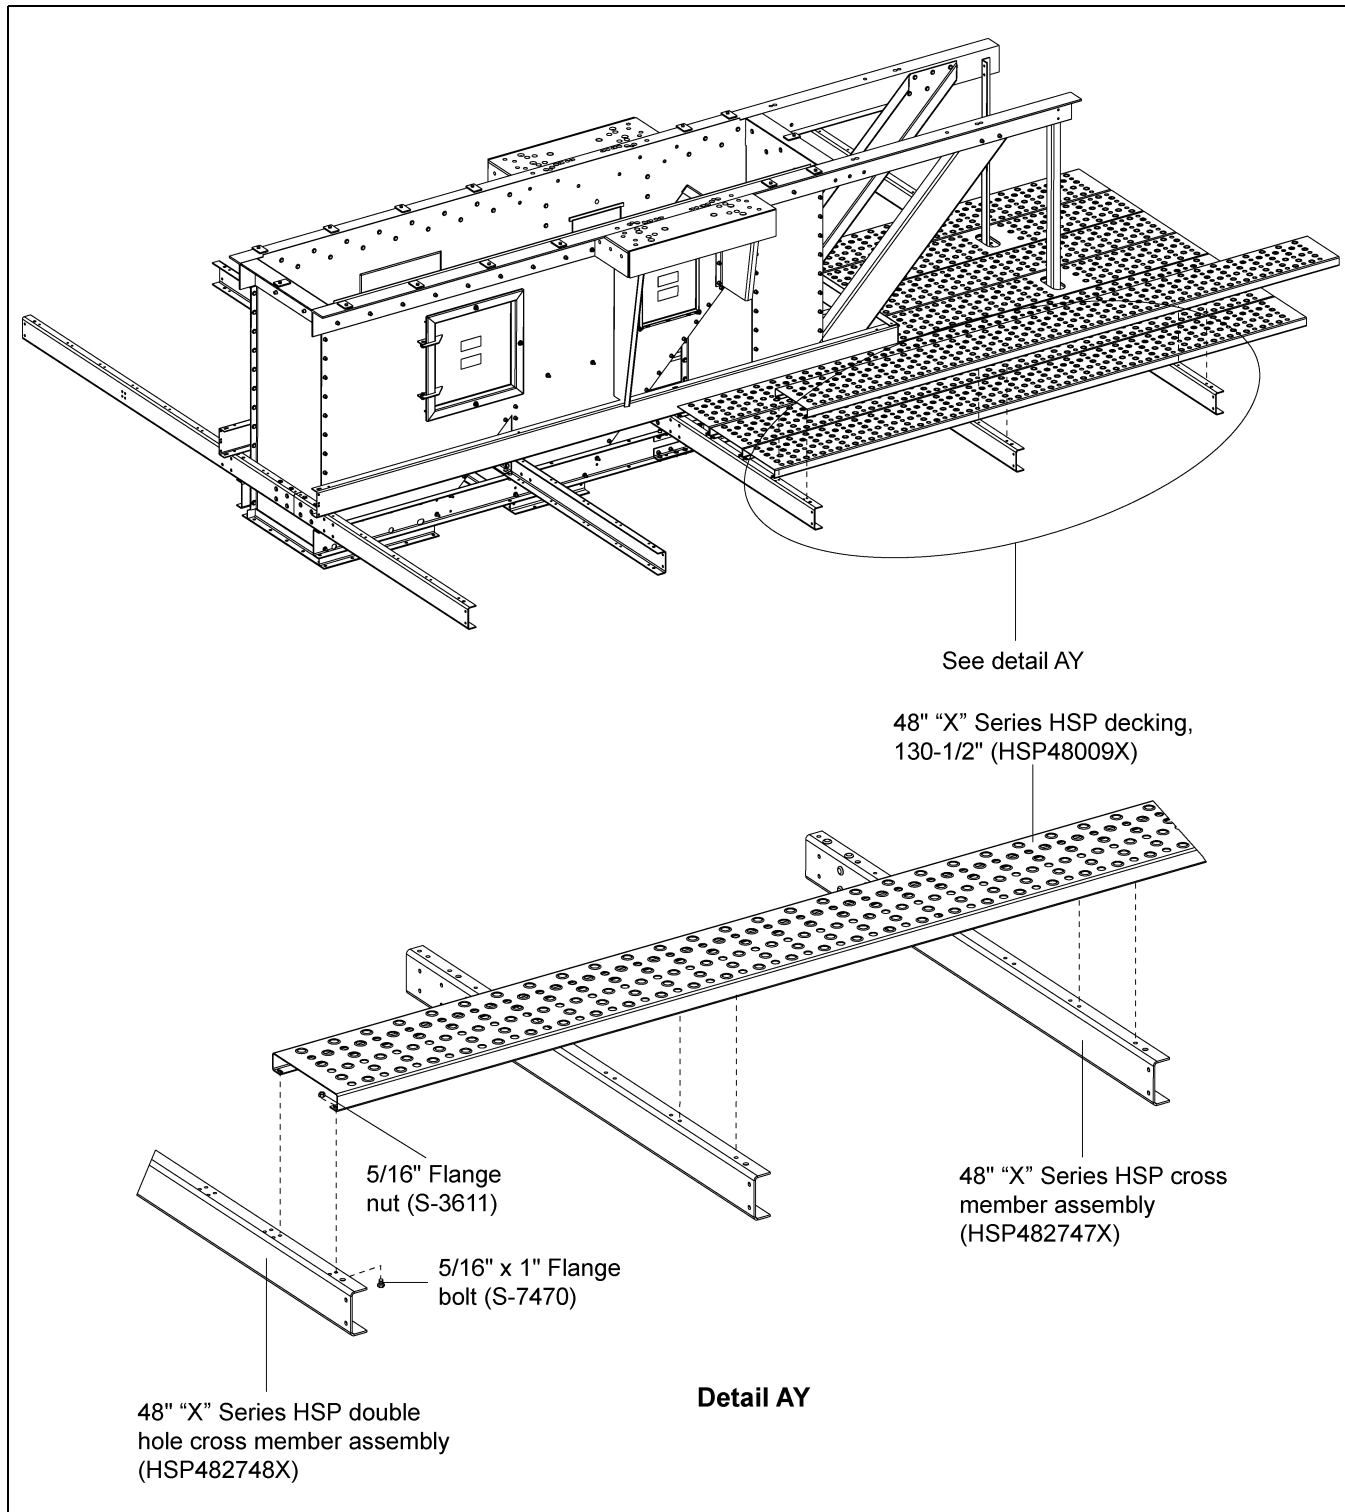

Figure 9J
1. Install four (4) planks of decking (HSP48009X) on the drive side at the up-leg end. **NOTE:** Be sure to install this section of decking by starting at the inside next to the toe board and working outward.
2. Fasten the decking to the three (3) cross channels (HSP482007X) using 5/16" x 1" flange bolts (S-7470) and 5/16" flange nuts (S-3611). (See Figure 9J.)